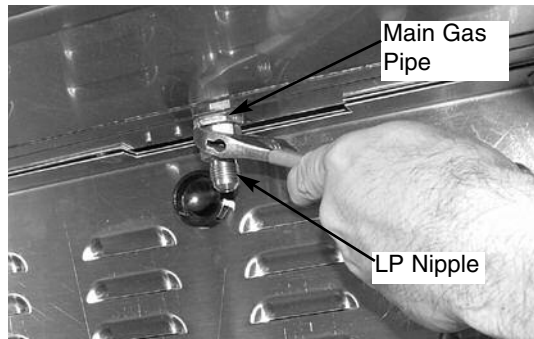

Fig 24
2. Remove the brass fitting from main gas line. (See Fig. 24)